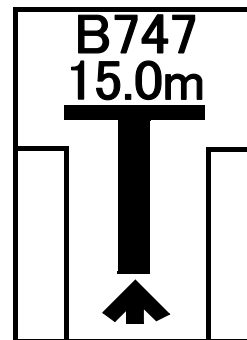
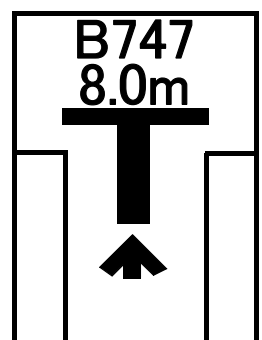

Fig.9
Fig.10
- (1) When the approaching aircraft is within 30 meters from the stopping position, display of digital countdown will start. As the aircraft approaches the stopping position, digital countdown is shown by 1 meter unit between 30 and 2 meters, or by 0.2 meters unit between 2 and 0 meters.
- (2) When the approaching aircraft is within 16 meters from the stopping position, the shaft of the illuminated "T" will start to reduce in its length from the bottom to indicate the approaching rate of the aircraft, indicating the remaining distance to the stopping position successively. (Fig.9, Fig.10)